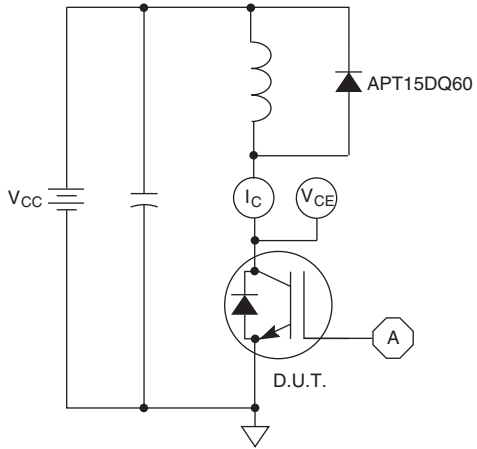

Figure 21, Inductive Switching Test Circuit
① Repetitive Rating: Pulse width limited by maximum junction temperature.
② For Combi devices,  $I_{ces}$  includes both IGBT and FRED leakages
③ See MIL-STD-750 Method 3471.
④  $E_{on1}$  is the clamped inductive turn-on energy of the IGBT only, without the effect of a commutating diode reverse recovery current adding to the IGBT turn-on loss. Tested in inductive switching test circuit shown in figure 21, but with a Silicon Carbide diode.
⑤  $E_{on2}$  is the clamped inductive turn-on energy that includes a commutating diode reverse recovery current in the IGBT turn-on switching loss. (See Figures 21, 22.)
⑥  $E_{off}$  is the clamped inductive turn-off energy measured in accordance with JEDEC standard JESD24-1. (See Figures 21, 23.)
⑦  $R_G$  is external gate resistance, not including  $R_{G(int)}$  nor gate driver impedance. (MIC4452)